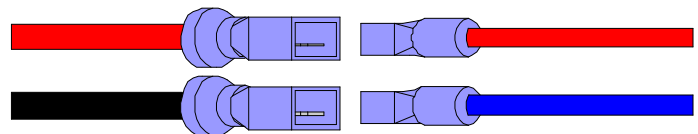

Figure 36. 35Ah Wire Harness to 8Ah Wire Harness
10. Connect the 35Ah wire harness to the 8Ah wire harness (red – red and black – blue). Figure 36